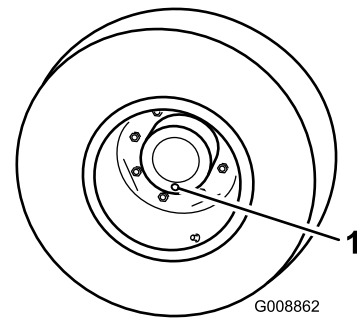

Figure 61
1. With the machine on a level surface, position a wheel so that one of the check plugs is at the lowest (6 o'clock) position (Figure 61).